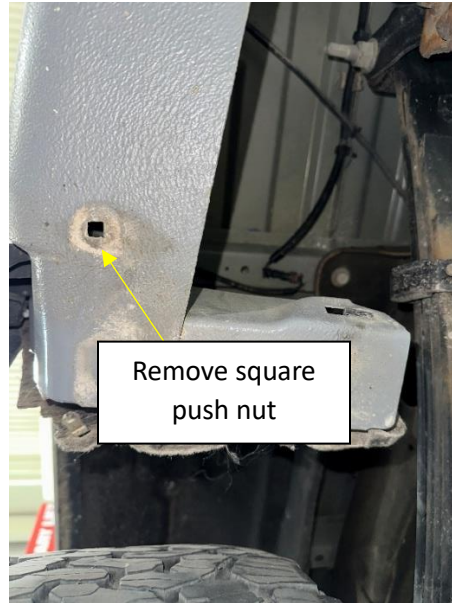

Figure 3
3. Remove the square push nut that sits in the fender (Figure 3).